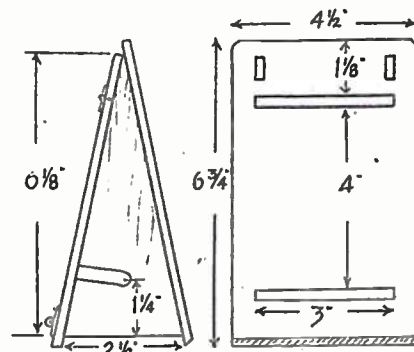

Fig. 1—Front and side views
A side view and front view are given in Fig. 1. Fretwood or plywood are suggested for the front and back parts, with a slightly thicker wood, say, 3/4in. deal, for the sides. Cut the front to dimensions given, and at the places shown, saw out the slots, making these 1/4in. wide. Above the top slot cut out two mortises 1/4in. long, and as wide as may be necessary to receive the fretwood brackets, seen at (B) in Fig. 3.